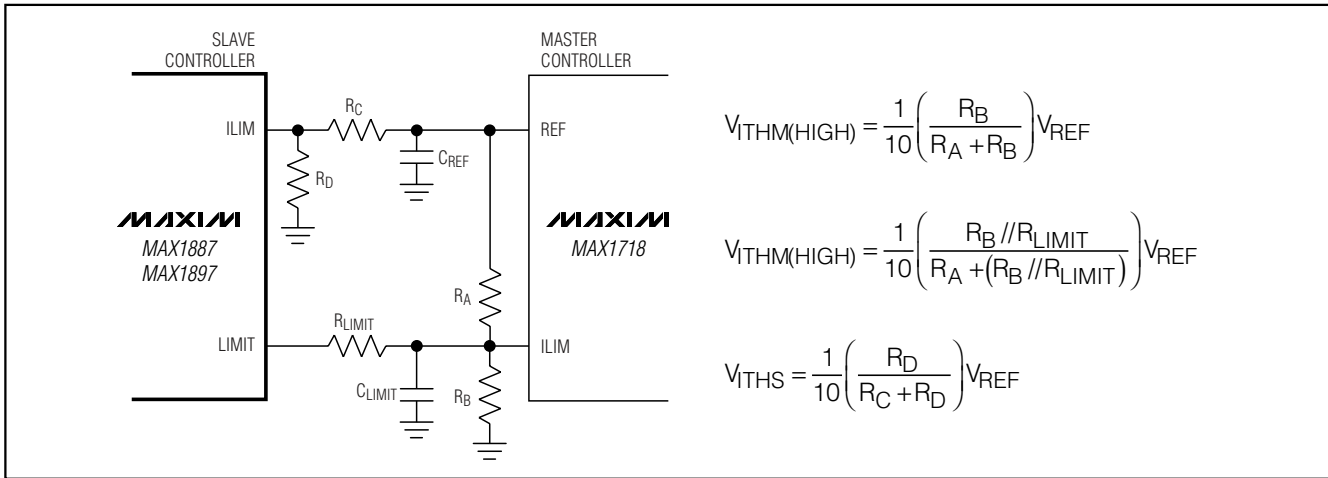

Figure 5. Setting the Adjustable Current Limits
where VITHM, the master's current-limit threshold, is typically 1/10th the voltage seen at the master's ILIM input (VITHM = 0.1 × VLIM(MASTER), see the master controller's data sheet). Connect a resistive voltage-divider from the master controller's internal reference to GND, with the master's ILIM input connected to the center tap (Figure 5). Use 1% tolerance resistors in the divider with 10µA to 20µA DC bias current to prevent significant errors due to the ILIM pin's input current:
where VITHS, the slave's current-limit threshold, is precisely one-tenth the voltage seen at the slave's ILIM input (VITHS = 0.1 × VLIM(SLAVE)). Connect a second resistive voltage-divider from the master controller's internal reference to GND, with the slave's ILIM input connected to the center tap (Figure 5). The external adjustment range of 400mV to 1.5V corresponds to a
Now select the resistive-divider values ( $R_A$  and  $R_B$  in Figure 5) to set the appropriate voltage at the master's ILIM input:
Select the resistive-divider values ( $R_C$  and  $R_D$  in Figure 5) to set the appropriate voltage at the slave's ILIM input:
- 4) Determine  $R_{LIMIT}$  (Figure 5) from the above equation: